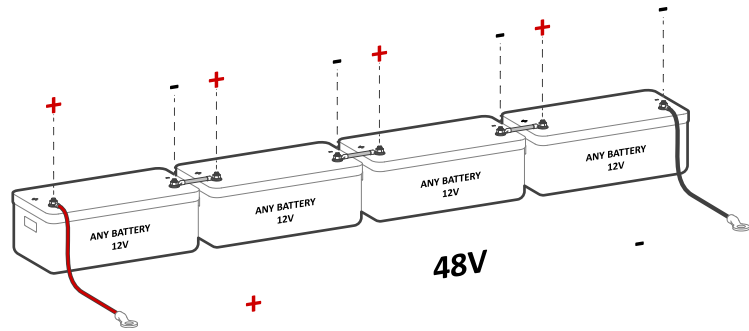

Figure 5b: 12V batteries in series connection
⚠ Sol-Ark 12K-2P-N is a **48V nominal system**. **DO NOT** connect the inverter to any other battery configuration. If you use 12V batteries, you **MUST NOT** exceed four (4) batteries in series, as shown in Figure 5b. The inverter can work with any battery chemistry as long as it remains within the range of **43V to 63V**.